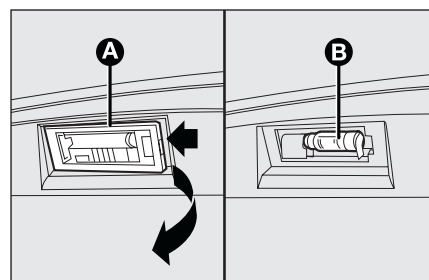

fig. 31
- ☐ apply pressure to the point shown by the arrow and remove lens **A**-fig. 31;